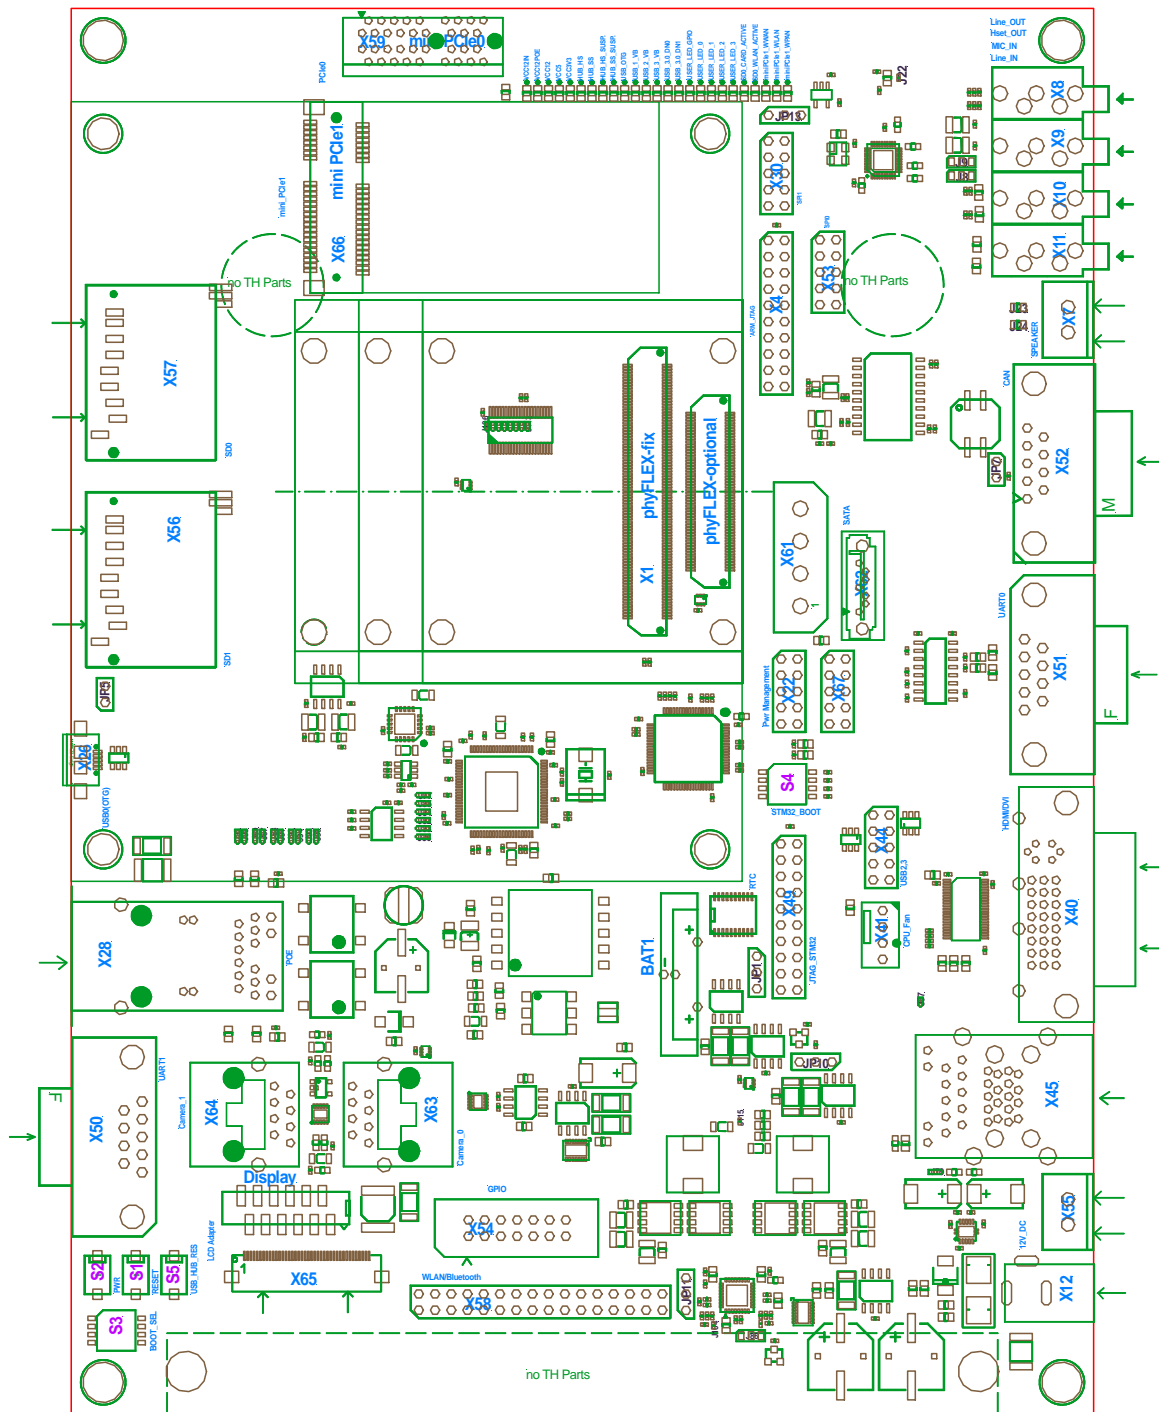

Figure 13: phyFLEX Carrier Board Overview of Connectors, LEDs and Buttons
The phyFLEX Carrier Board is depicted in *Figure 13*. It is equipped with the components and peripherals listed in *Table 37*, *Table 38*, *Table 39* and *Table 40*. For a more detailed description of each peripheral refer to the appropriate chapter listed in the applicable table. *Figure 13* highlights the location of each peripheral for easy identification.
*Table 37* lists all available connectors on the phyFLEX Carrier Board. *Figure 13* highlights the location of each connector for easy identification.
The phyFLEX Carrier Board is populated with some switches which are essential for the operation of the phyFLEX-i.MX 6 module on the carrier board. Figure 13 shows the location of the switches and push buttons.
The phyFLEX Carrier Board is populated with numerous LEDs to indicate the status of the various USB-Host interfaces, as well as the different supply voltages. Figure 13 shows the location of the LEDs. Their function is listed in the table below: